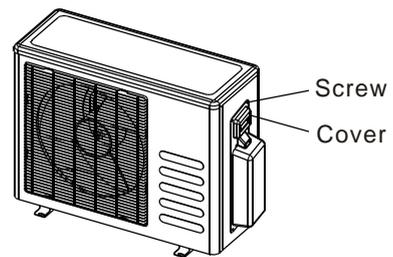

Fig.61
1. Remove the electrical control board cover from the outdoor unit by loosening the screw as shown in Fig.61